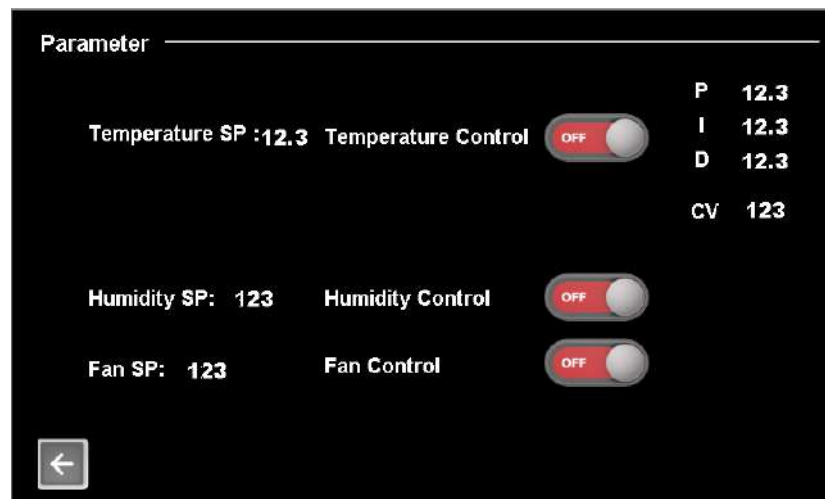

Fig. 4
- *Diagnostics:* Component status check (Fig. 4)
■ Control Parameters (Fig. 4)